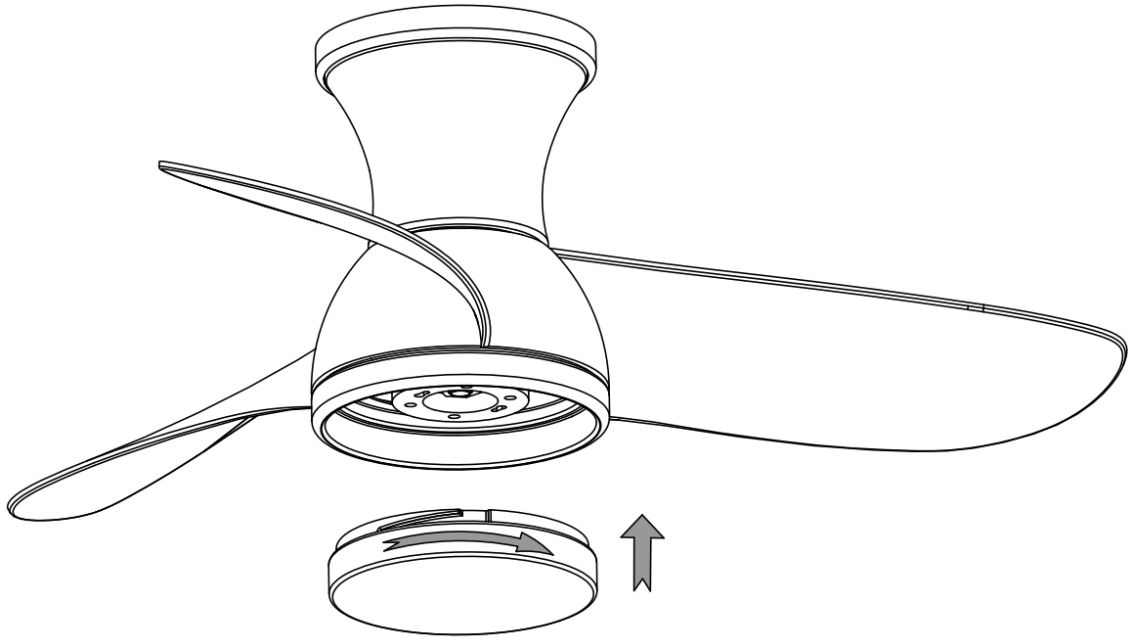

Fig. 12
INSTALLATION OF BOTTOM COVER (Fig. 12)
- If no lamp is required, Install the bottom cover to the fan assembly then secure it by turning clockwise. (Fig.12)